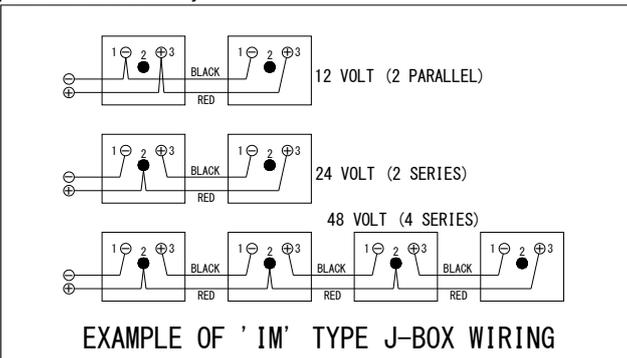

Figure 3. Standard Wiring Examples
As shown in Figure 3 Standard Wiring Examples, the PV modules utilize the Type "IM" junction box (see J-box details). This junction box, located on the back side of the module, is weatherproof and is designed to be used with standard wiring or conduit connections. A cable clamp with a minimum rating of IP65 must be used to maintain the weatherproof integrity of the junction box. Bypass diodes are preinstalled at factory.
- A. Determine the nominal system array voltage of your system. Each panel is equivalent to a 12 VDC nominal block. Standard array voltages 12, 24 and 48 volt are shown as examples in Figure 3.